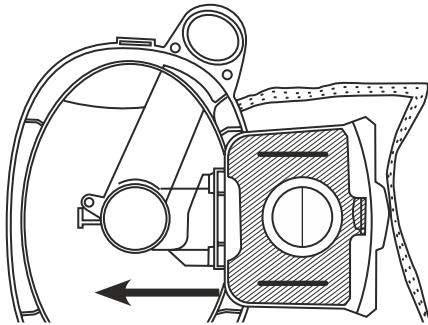

Fig 3
5. The cardboard face of the new bag should rest securely in the Dust Bag cover guides. (Fig.3)